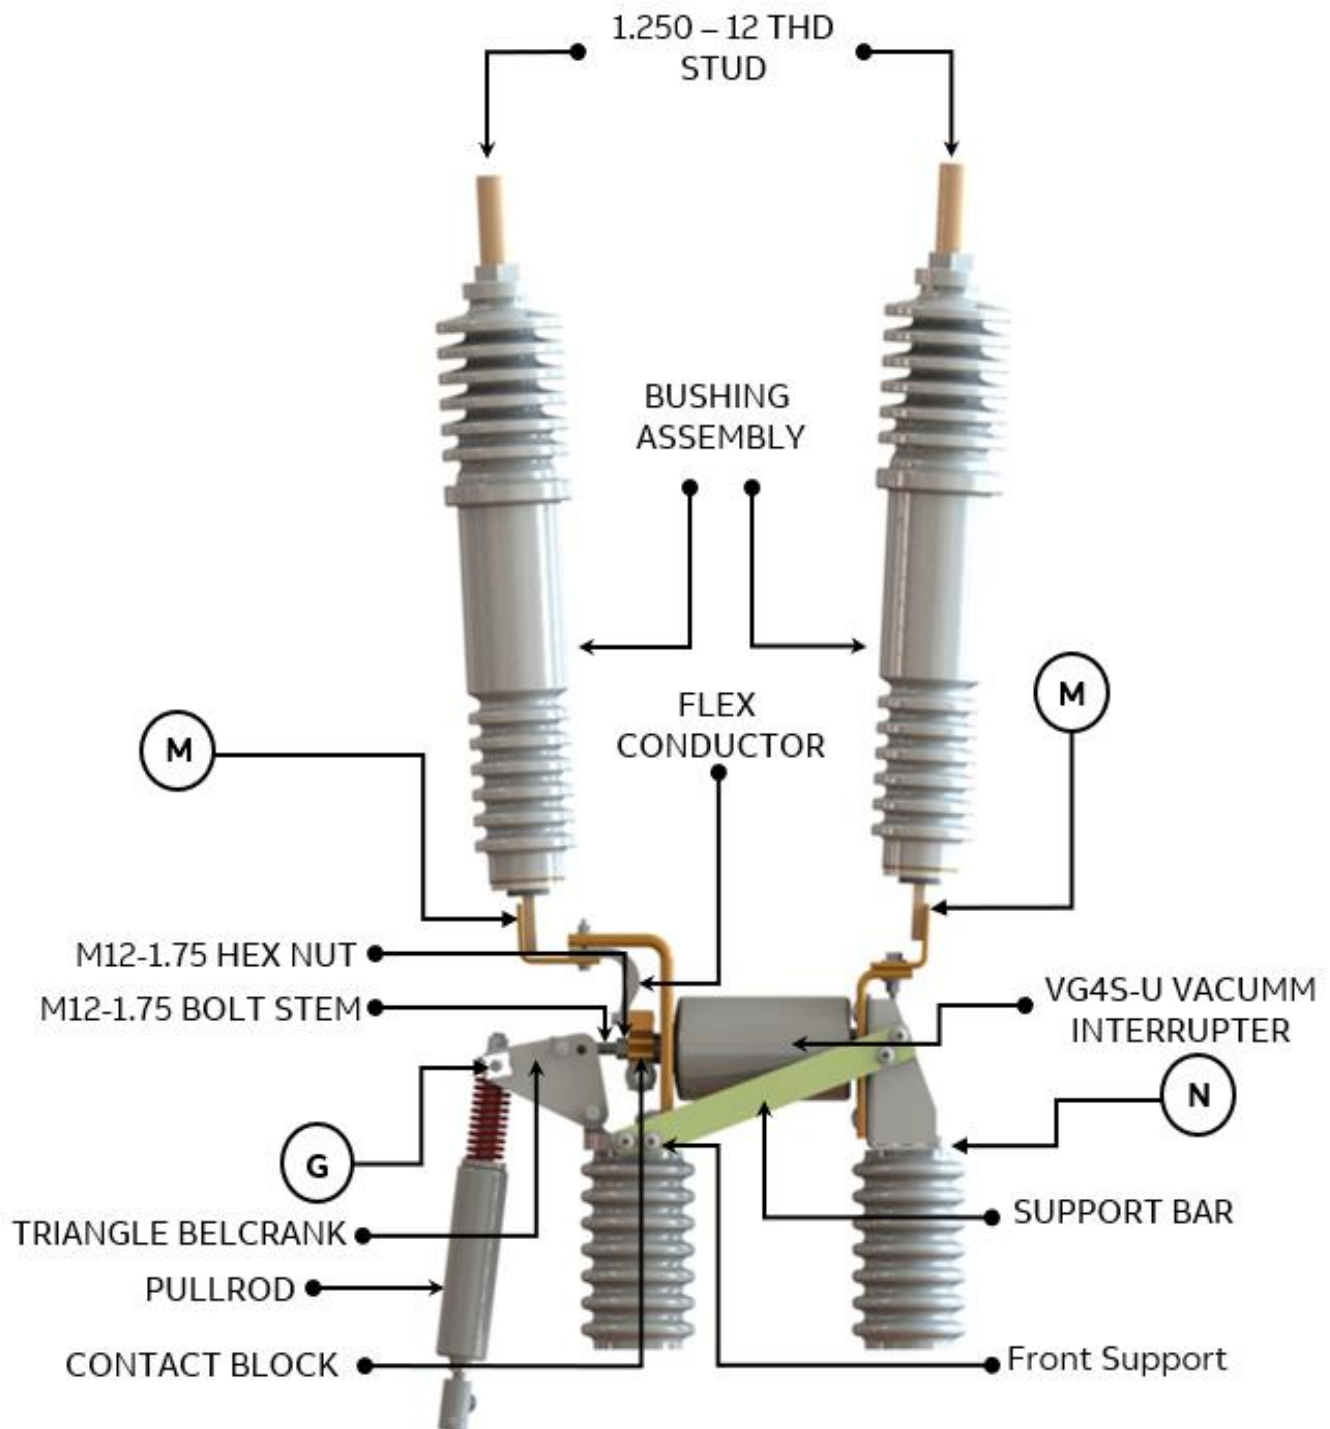

Figure 16 - R-MEC interrupter assembly 15.5kV, 1250A
3. Verify standoff insulators and pull-rods from external damages (Figure 16)
4. Clean silicon surface of vacuum interrupter from dust/dirt with cleaning agents & dry cotton-cloth. Ensure that no cotton-threads are left on the surface (Figure 16)
- a) .250-20 flex connectors 7-10 ft-lbs (Figure 16)
- b) .375-16 bus connections 27-35 ft-lbs (Figure 16 - M)
3. Verify torque in standoff insulators and front support (Figure 16)
4. Verify torque in support bars (front and rear) (Figure 16)